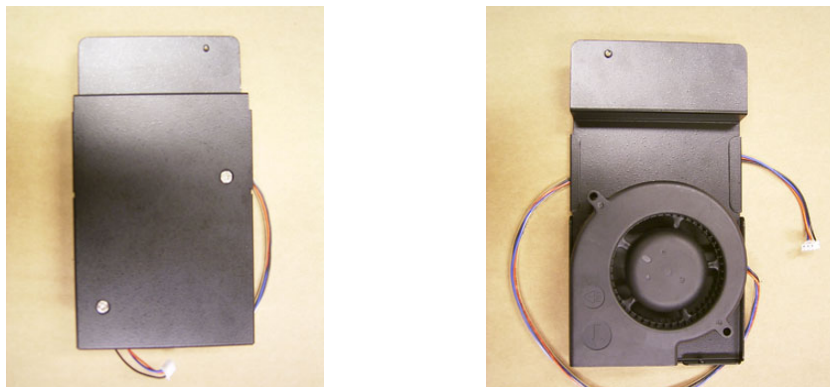

Figure 3.6 Both sides of the blower unit
4. Detach the blower from the bracket by loosening the screws. (see Figure 3.6)